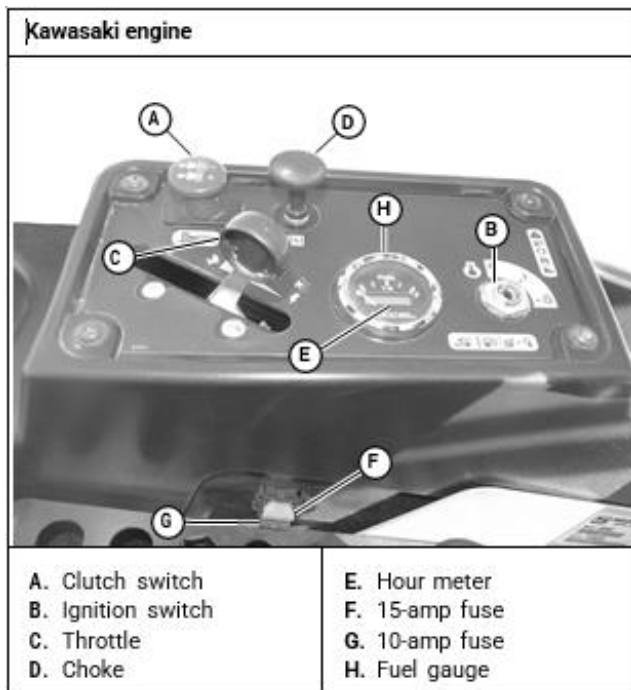

Figure 1
- A. Clutch switch [Figure 1] this switch engages the deck. Pull the switch up to engage and push the switch down to disengage the clutch.
- B. Ignition [Figure 1] — a three position switch: “OFF”, “RUN”, and “START”. With the key inserted, rotate it clockwise to the “START” position; release the key when the engine starts, and the switch will automatically return to the “RUN” position.
- C. Throttle [Figure 1] — a cable is linked to the engine throttle for controlling engine speed. Move the lever forward to increase engine rpm, move the lever rearward to decrease engine rpm.
- D. Choke control [Figure 1] — a cable is linked to manually operate the engine choke. When the lever is in the down position, the choke is in the “OFF” (run) position. When the knob is pulled up, the choke is in the “ON” (start) position. Do
- E. Electronic hour meter [Figure 1] — registers 1/10 hour increments up to 9,999.9 total hours. It is connected to the ignition switch. It records the accumulative time while the ignition key is switched to the “RUN” position.
- F. 15-amp fuse [Figure 1] — 15-amp, blade-type.
- G. 10-amp [Figure 1] — 10-amp, blade-type.
- H. Fuel tank gauge [Figure 1] — This gauge shows the fuel level in the fuel tank.